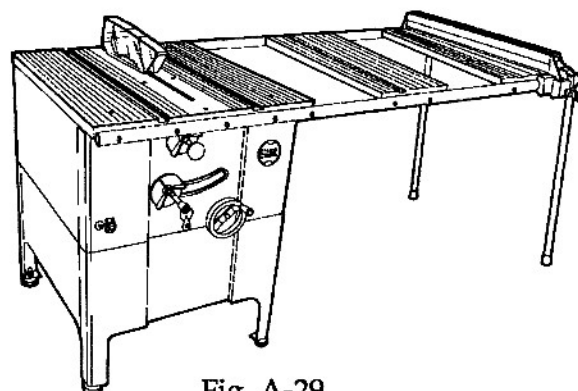

Fig. A-29
34. Repeat Steps 30 - 33 to install the other telescoping leg. Fig. A-29 shows the assembled Pro Model.